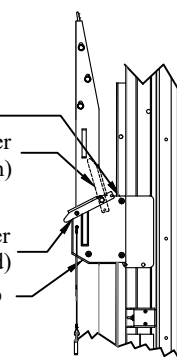

Figure 15: Step 8.
- Step 8. Continue to raise the platform until the platform ear clears the latch flipper, and the latch flipper rotates closed (Figure 15).